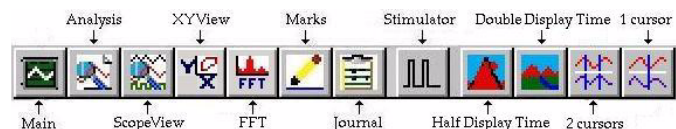

Figure GB-2-2: The **LabScribe toolbar**.
- 1 Locate the section of the recording where output of the pH electrode was measured in pH 4 and pH 7 buffers. To view this section of the recording in its entirety on the same window, it may be necessary to click either of the **Display Time icons** in the **LabScribe toolbar** (Figure GB-2-2 on page 2).
- 2 Click the **2-Cursor icon** (Figure GB-2-2 on page 2) so that two blue vertical lines appear over the recording window. Place one cursor on the plateau recorded while the pH probe was in pH 7 buffer. Place the other cursor on the plateau recorded while the pH probe was in pH 4 buffer.
- 1 Scroll to the section of data recorded during Exercise 1. Use the **Display Time icons** on the **LabScribe toolbar** (Figure GB-2-2 on page 2) to complete recording from Exercise 1 on the **Main window**.
- 2 Click on the **2-Cursor icon** in the **LabScribe toolbar** (Figure GB-2-2 on page 2), so that two blue cursors appear over the **Main window**.
- 4 Click the **Analysis icon** on the **LabScribe toolbar** (Figure GB-2-2 on page 2) to transfer the data between the cursors to the **Analysis window**.